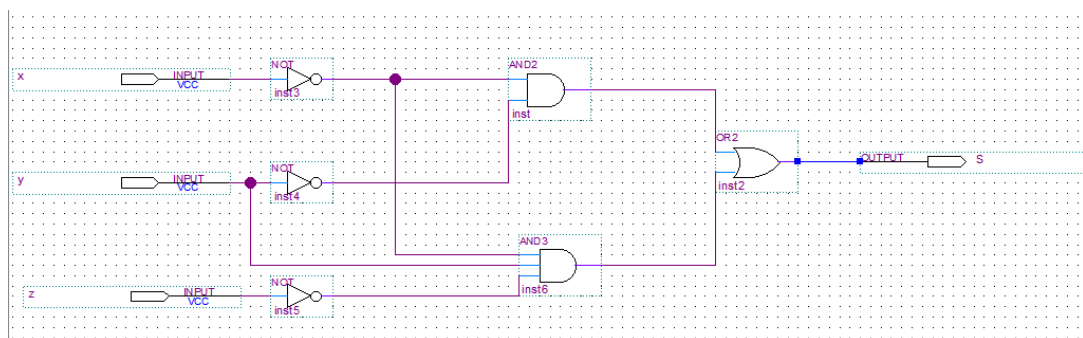

Fig. 7: The completed circuit diagram
- 6) Now we are ready to make wiring. Click on  (Orthogonal Node Tool) icon. Position the mouse pointer over the right edge of the x input pin. Click and hold the mouse button and drag the mouse to the right until the drawn line reaches the pinstub on the top input of the not gate. Release the mouse button when you see a box appear, which leaves the line connecting the two pinstubs. Apply same procedure for remaining wires and construct the circuit shown in Fig. 7. After wiring save the schematic.